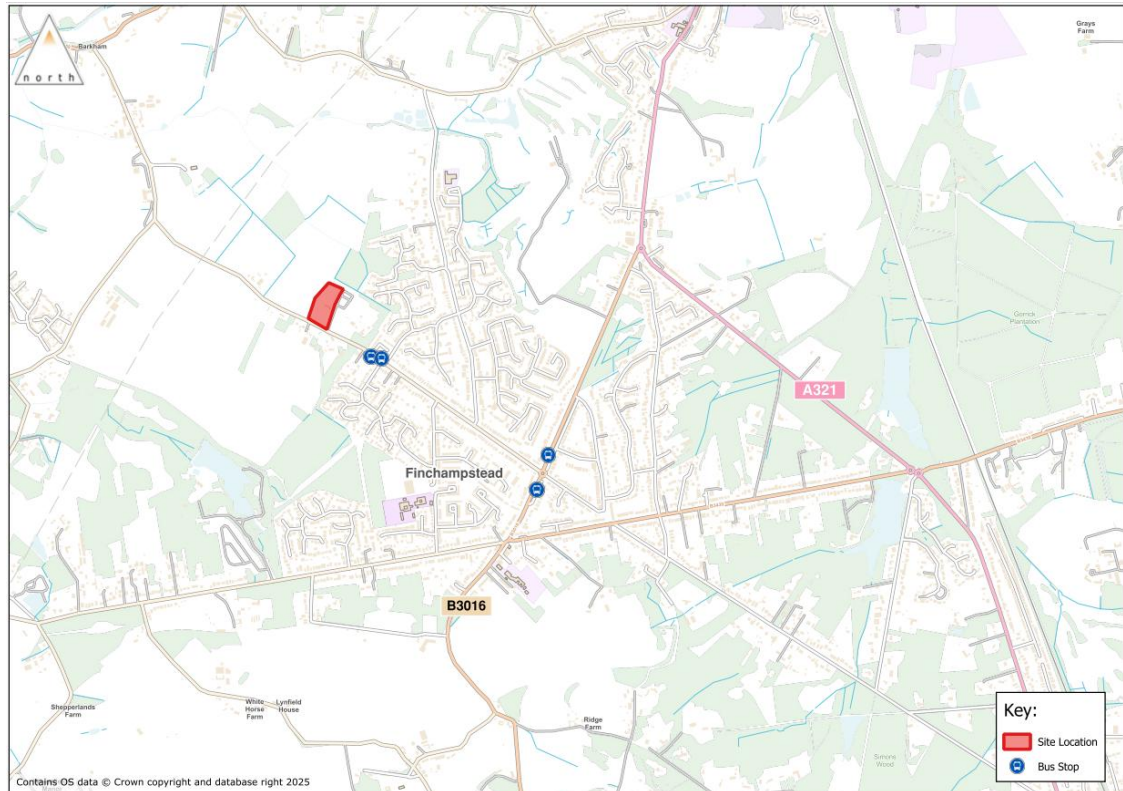

Figure 3.1 - Site Location
- 3.1 The site is located to the north of the built up area of Finchampstead and 2.3km south west of Wokingham. The site is located along Barkham Ride, adjacent to Rook's Nest Wood Country Park. The site benefits from close proximity to local bus stops and the M4, as well as a number of amenities within walking distance. The site is situated within the administrative authority of the Wokingham Borough Council. The site in relation to strategic transport links is shown in Figure 3.1 below.